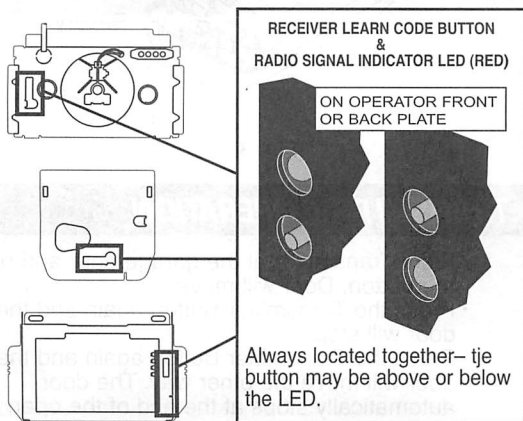

Fig. 1
- Step 2-2** Press and release the Learn Code Button (located next to the red Radio Signal Indicator LED). **Fig. 1**